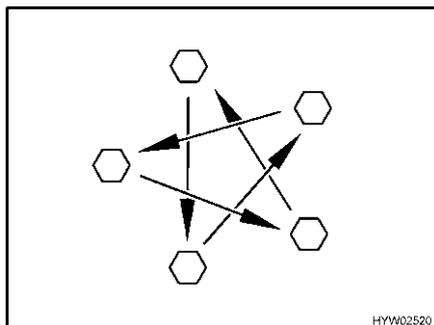

Fig. 289 Tighten the wheel nuts or wheel bolts cross-wise
- Check regularly that the wheel nuts or wheel bolts are firmly seated. Retighten the wheel nuts or wheel bolts of a changed wheel cross-wise (Fig. 289) after 50 km (30 miles). See section 13.5.2 for tightening torque.
- ▷ Tighten the wheel nuts or wheel bolts cross-wise (Fig. 289).